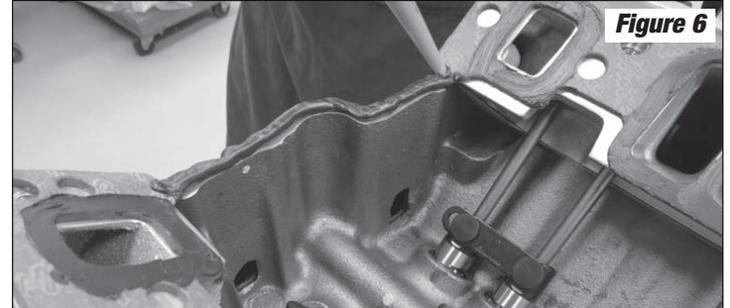

Figure 6
5. Apply a 1/4" thick bead of silicone across each end seal surface (See Figure 6).